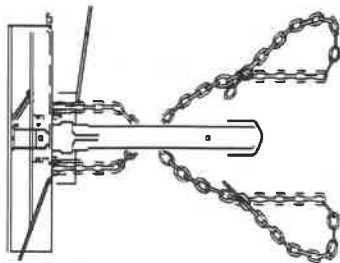

Fig. 2
4. The safety chains cross under the tow pole to support the mixer if disconnected from tow vehicle. (SEE FIGURE 2)